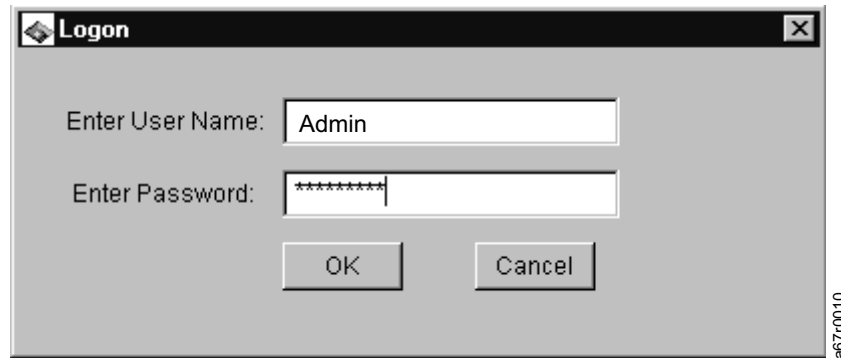

Figure 9. Logging on to the Server
4. Log on to the server. See Figure 9 on page 31.
To log on, type Admin in the **Enter User Name** field and type password in the **Enter Password** field, then click **OK** (see Figure 9).